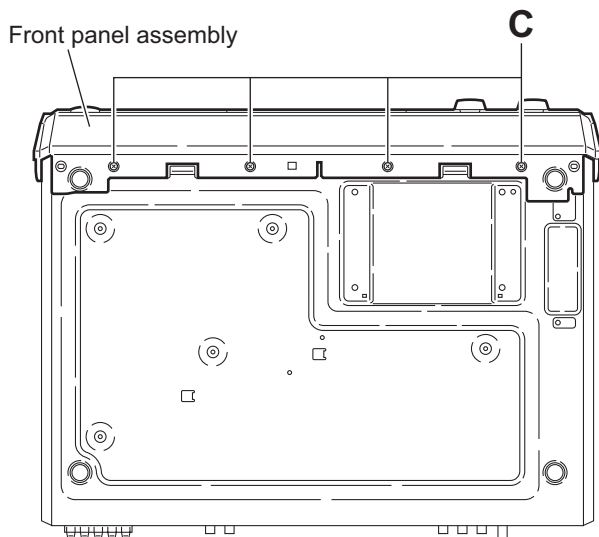

Fig.3
- (2) From the bottom side of the main body, remove the four screws **C** attaching the front panel assembly. (See Fig.3.)